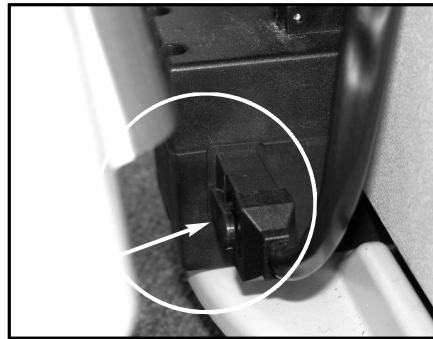

Figure 7G
1. Remove each of the battery connectors by pinching the tab on the connector at the junction box and gently pulling free (See Figure 7G, above).